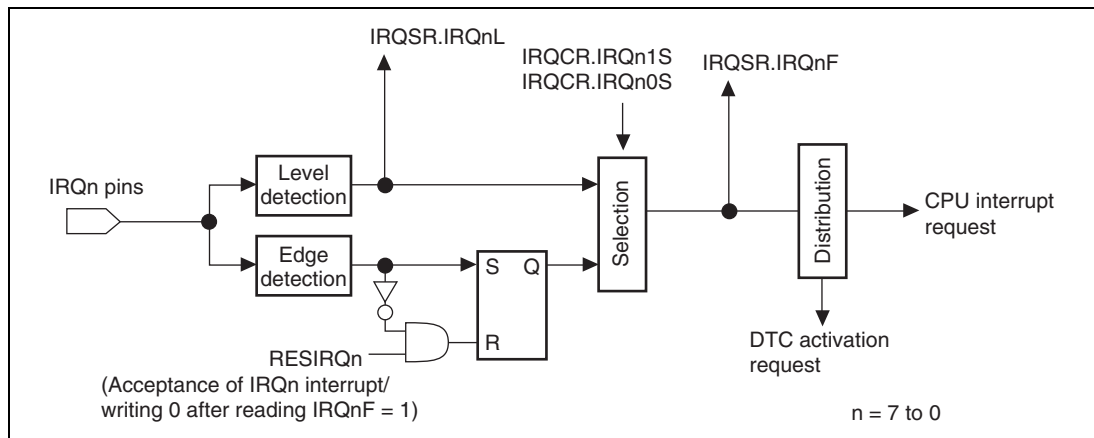

Figure 6.2 Block Diagram of IRQ7 to IRQ0 Interrupts Control
In the IRQ interrupt exception handling, the interrupt mask bits (I3 to I0) in the status register (SR) are set to the priority level value of the accepted IRQ interrupt. Figure 6.2 shows the block diagram of the IRQ7 to IRQ0 interrupts.